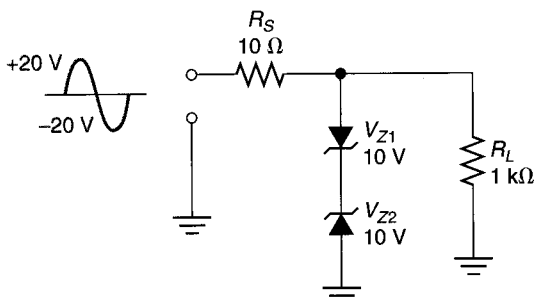
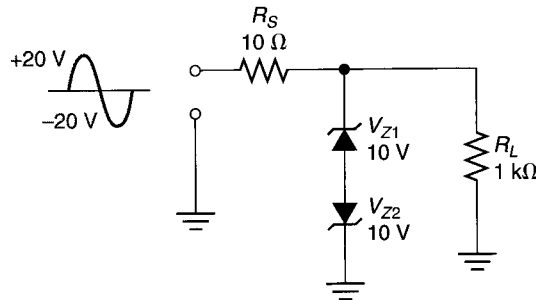

FIGURE 4.54
FIGURE 4.55
46. Repeat Problem 45 for the *dual-zener clipper* shown in Figure 4.54.
47. If we reverse the zener diodes in Figure 4.54, we get the circuit shown in Figure 4.55. Explain what difference (if any) results from the change.